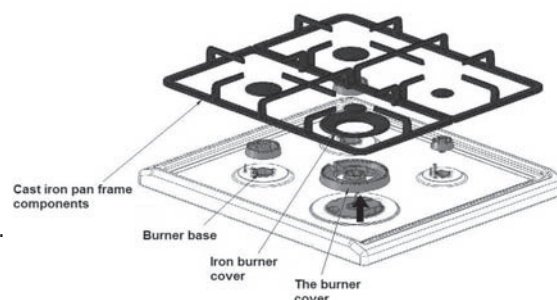

Figure 1
Removing the trivets (Refer Figure 1)
- Open the door to the full extent (fig.1);
- Double oven door: Remove the seal G by unscrew the no.2 bolts (fig.1)